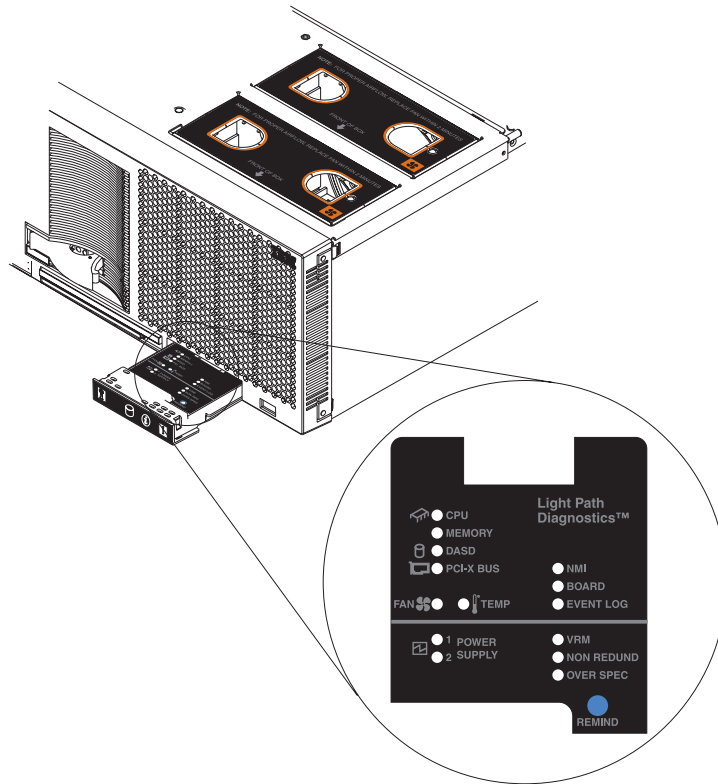

Figure 27. Light path diagnostics panel
2. Proceed to the light path diagnostics panel (see Figure 27 on page 66).